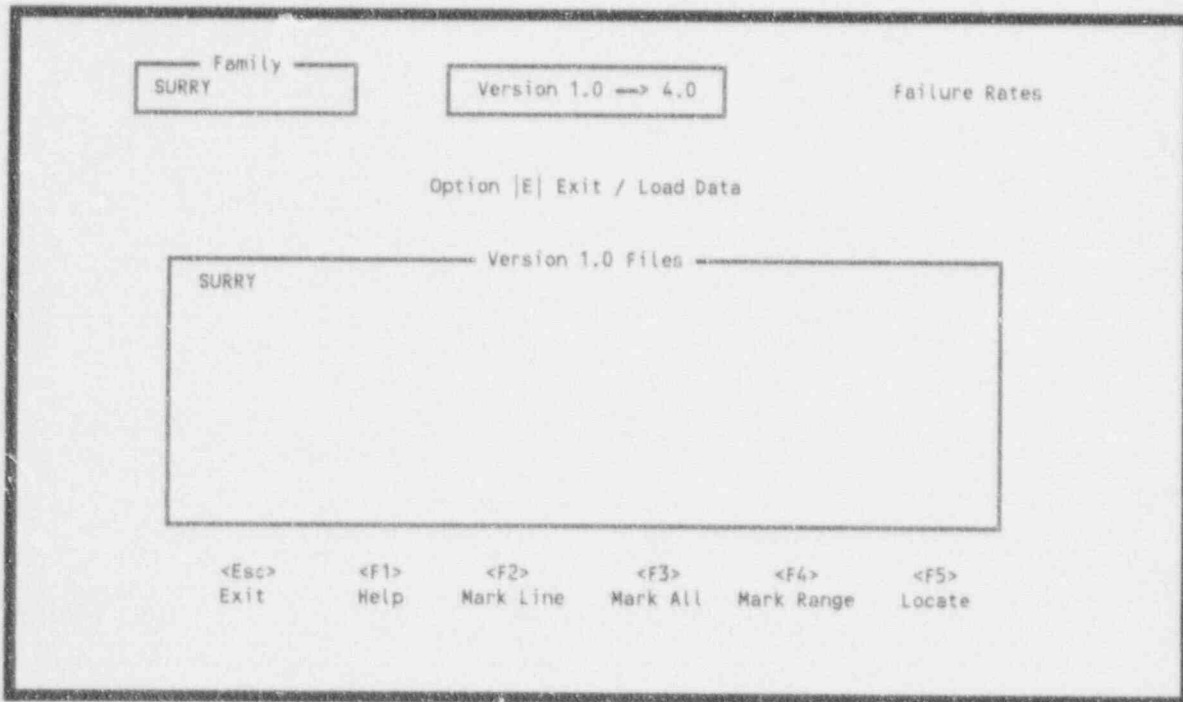

Figure 263. Family selection screen.
11.5.2.1 Failure Rates. This option allows you to convert basic events and their failure rates generated in Version 1.0 to Version 4.0. Version 1.0 of IRRAS stored this information in files with a ".RAT" extension, one ".RAT" file per family. When you invoke this option, Figure 263 will be displayed, listing all 1.0 files with the ".RAT" extension. To invoke this option for a single ".RAT" file, enter an <L> in the option field, highlight the desired file name, and press <Enter>. To invoke this process for a group of files, mark the desired files using the function keys F2, F3, and F4, enter an <L> in the option field, and press <Enter>. To invoke this option for all ".RAT" files, clear all marked entries, enter an <L> in the option field, and press <Enter>. A message **Process all records? (Y/N)** will appear at the bottom of the screen. Type a <Y> to convert all files, or type an <N> to terminate the conversion.